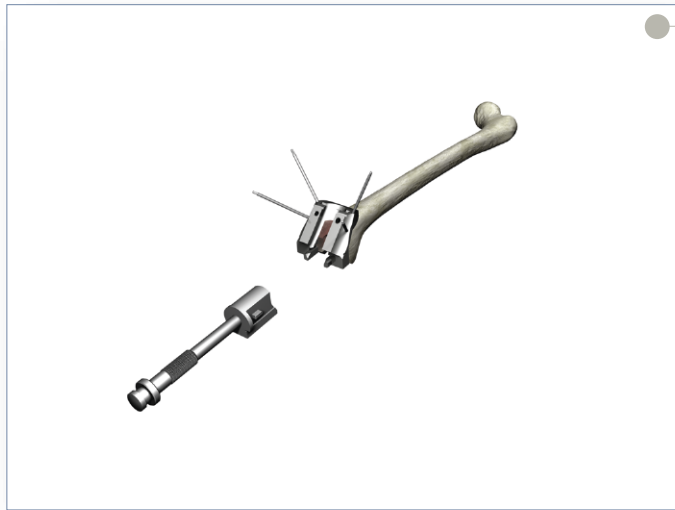

Figure 34
- ▶ Assemble the appropriately sized Notch Compactor to the punch handle (**Figure 34**).